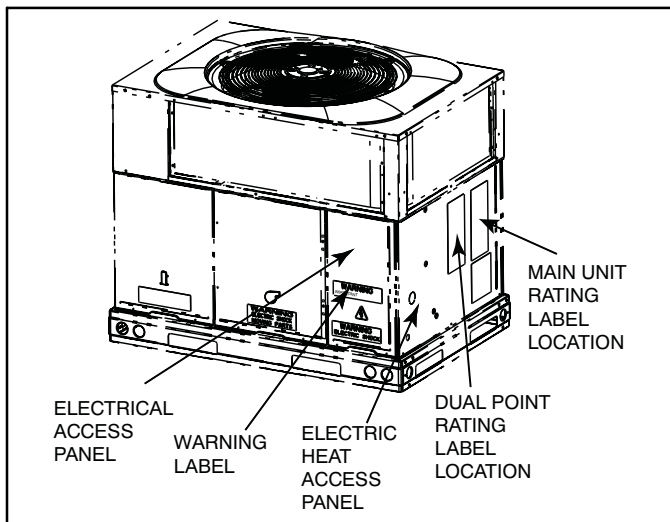
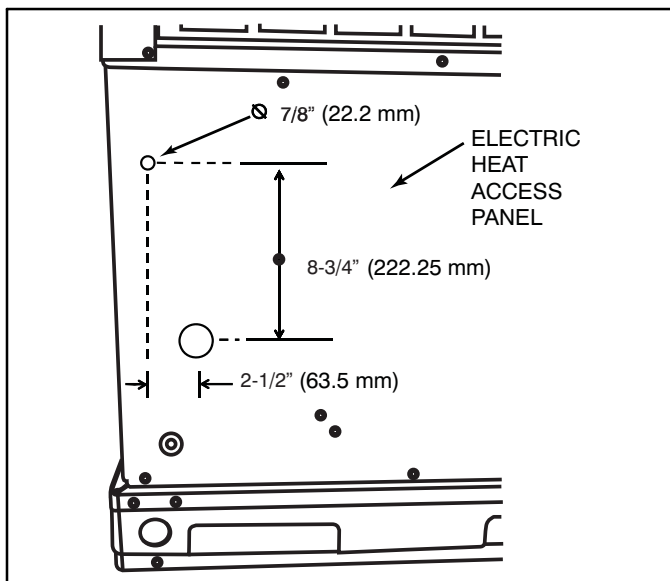

Figure 1 – Unit Access Panel and Label Location
Figure 2 – Second Power Line Access Hole Location
4. Remove unit electrical access panel (See Figure 1).
2. Remove electric access panel (see Figure 1), check to make sure there is clearance on the inside of control box above the existing high voltage knockout. Using a knockout punch and die combination, make a 7/8-in. hole on the Electrical Heat access panel for second power circuit (see Figure 2). A knockout punch and die combination or equivalent tool is required to make this hole. Other types of drill bits or standard hole saws are not acceptable.
3. Attach warning and rating labels in the selected location (see Figure 1).